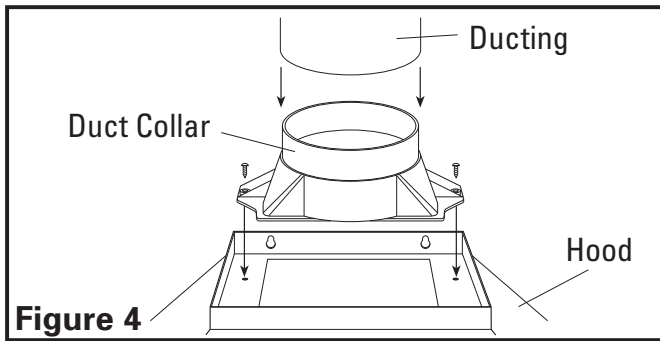

Figure 4
1. Install the included duct collar to the hood with two of the provided 3.9 x 13 mm screws (Figure 4).
2. Connect the ducting to the duct collar and secure in place using tape to seal all joints (**Figure 4**).